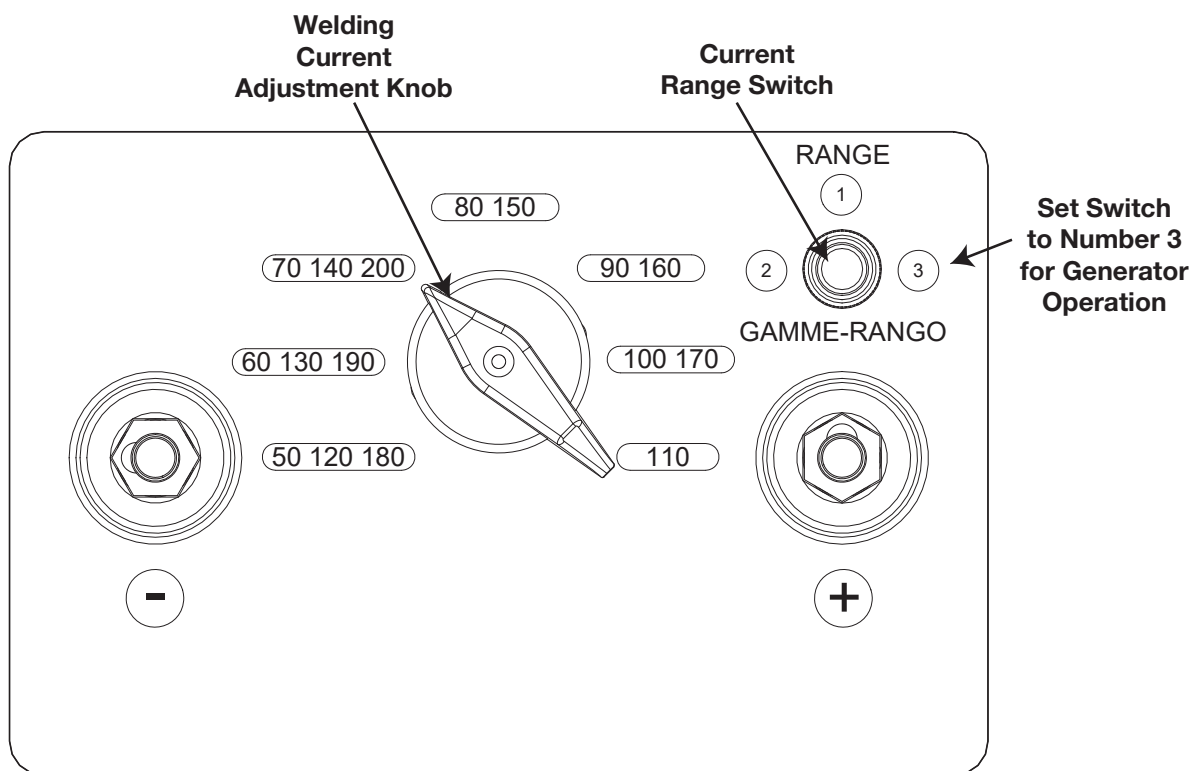

Figure 6 Control Panel
THE CURRENT RANGE SELECTOR SWITCH (LOCATED AT THE TOP RIGHT OF THE ALTERNATOR CONTROL PANEL) MUST BE SET TO NUMBER 3 (FAR RIGHT POSITION) FOR 120VAC & 240VAC OPERATION. REFER TO FIGURE 6 (PAGE 13)
4. Set the desired current range with the range selector switch located at the upper right hand corner of the Alternator control panel. Refer to Figure 6 (page 13). White number ①, indicates low range, Black number ② for medium range, and Red number ③, for high range.
5. Set the welding current adjustment knob (see figure 6) to the proper amperage for the electrode diameter. Refer to the electrode manufacturer for proper current settings.